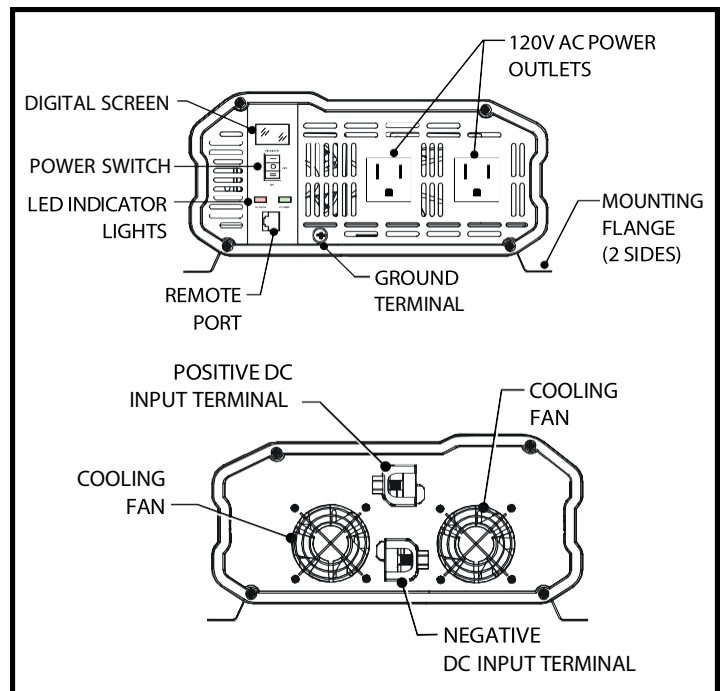

Figure 1-12
- Connect an AWG 8 gauge copper wire, or greater, between the grounding terminal of the inverter and the Earth ground or vehicle chassis. (See *Figure 1-12*)
The inverter comes with 2 indicator lights. Green for Power. Red for Alarm. (See *Figure 1-12*)